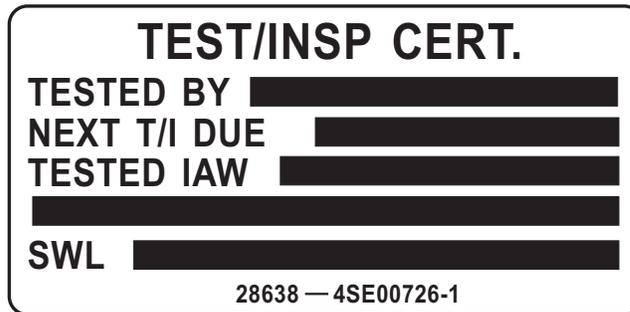

Figure 13-9.—Required test/inspection certification tag.
- The fittings and structural members should be checked by inspecting all of the terminals, shackles, lugs, and structural members for misalignment, wear, corrosion and pitting, and deformation. Ensure the latest test/inspection certification tag (fig. 13-9) is securely attached and legible.